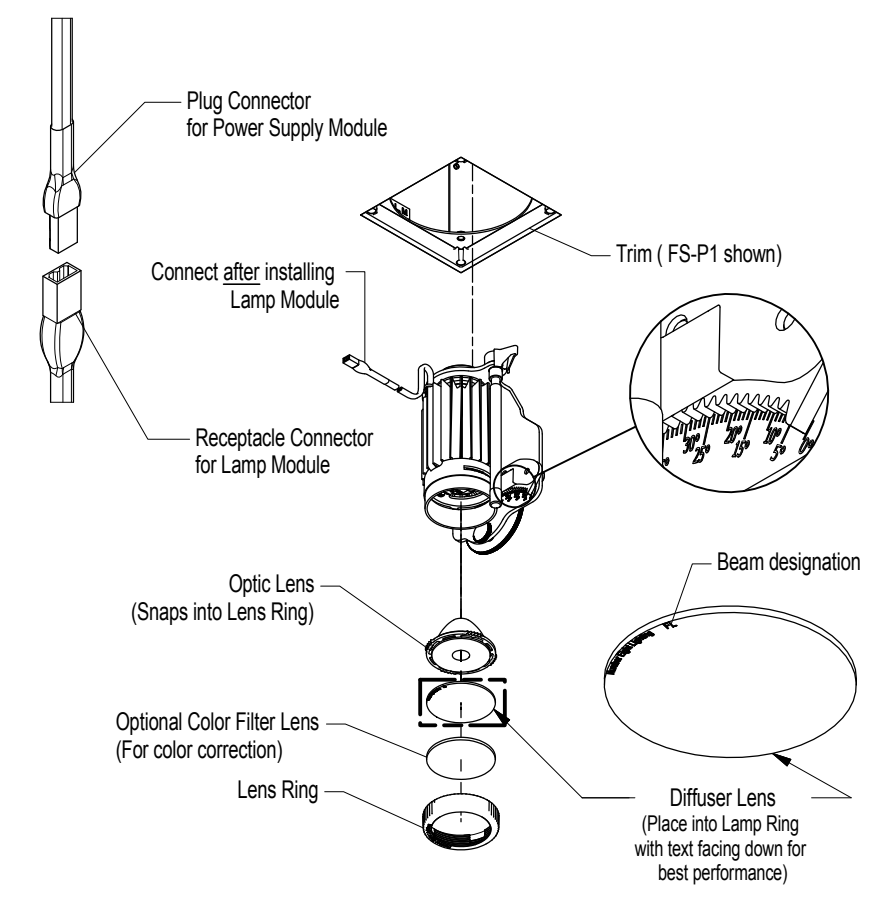

FIG. 1.2 Installing Lamp Module J2
Step 2 Insert Lamp Module into housing as shown then adjust to 45° position to expose Bolt. Secure to Housing Center Nut - FIG 1.2 & 1.3.
Step 4 Plug Wire Connector from Lamp Module into Power Supply Module connector. Push wire up inside housing to avoid interference during adjustment - FIG 1.2.
Optional Accessories: Unscrew Lamp Ring to add/ remove accessories - FIG 1.2.